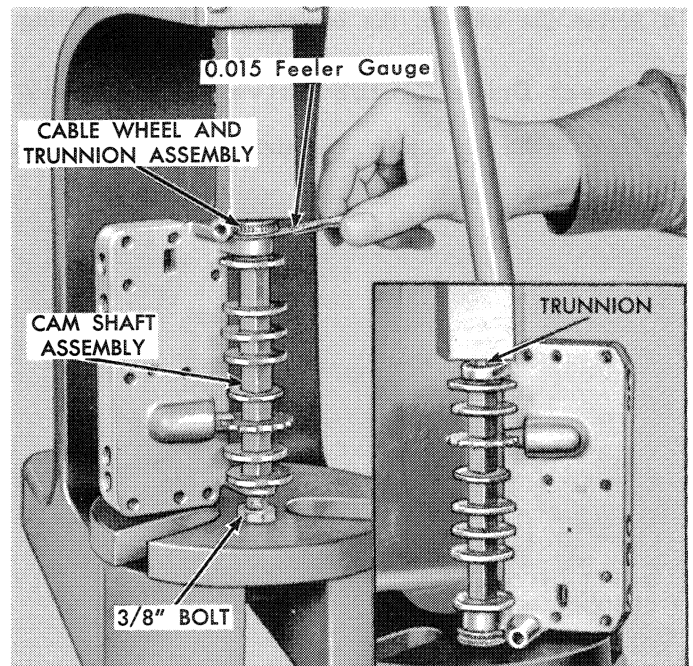

Figure 80
2. Position the camshaft assembly in the valve upper body. Insert a 3/8" bolt into the left end of the camshaft to support the assembly while the cable wheel and trunnion assembly is being pressed into the right end, as shown in Figure 80. A clearance of 0.015" should be maintained between the cable wheel and valve body, as shown. Press the trunnion into the left end of the camshaft, as shown in the Insert.